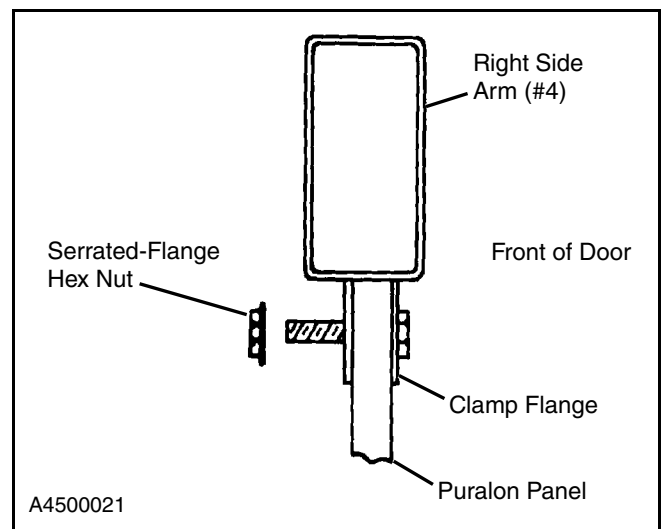

Figure 19
2. Attach the panel and clamp flange to the right side arm with 5/16-18 serrated-flange hex nuts provided with the door. (See Figure 19.)